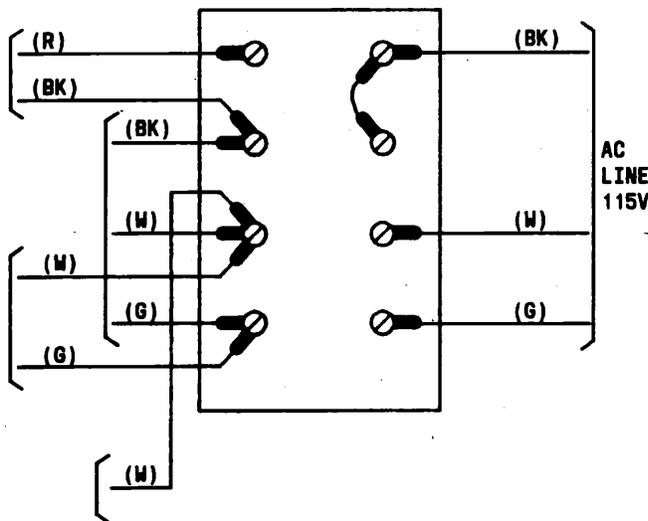

Fig. 1—Line Voltage Connections
2.04 The DCO-PNI equipment requires essential 115-V ac central office supply with engine backup. Connect the power as shown in Fig. 1.
5. Verify that the power cable is connected to the DCO-PNI 115-V ac connector block. (See NT08576-31 and Fig. 1.)